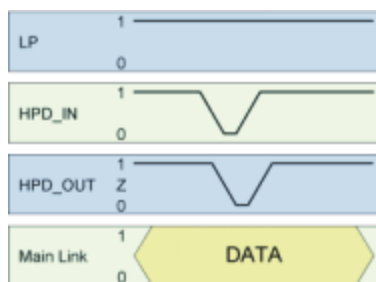
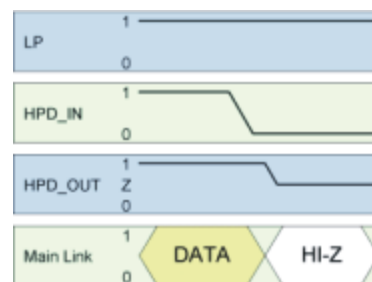

Figure 16.
Figure 17.
- In this case the HPD input is initially HIGH. The HPD output logic state follows the state of the HPD input. If the HPD input pulses LOW, as may be the case if the sink device is requesting an interrupt, the HPD output to the source will also pulse Low for the same duration of time with a slight delay (Figure 16). The delay of this signal through the SN75DP118 is specified as $t_{PD(HPD)}$. If the duration of the LOW pulse is less than $t_{M(HPD)}$ it may not be accurately repeated to the source. If the duration of the LOW pulse exceeds $t_{T(HPD)}$ the device determines that an unplug event has occurred and enters the low power state (Figure 17). Once the HPD input goes high again the device returns to the active state as indicated in scenario 1.